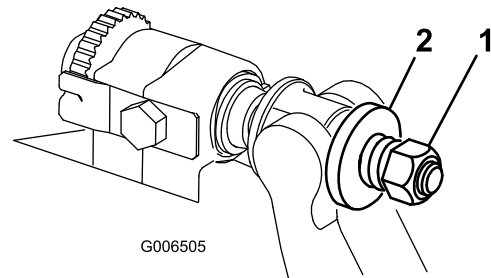

Figure 33
6. Tighten the spring tension nut until the spring is collapsed, then back off 1/2 turn (Figure 33).